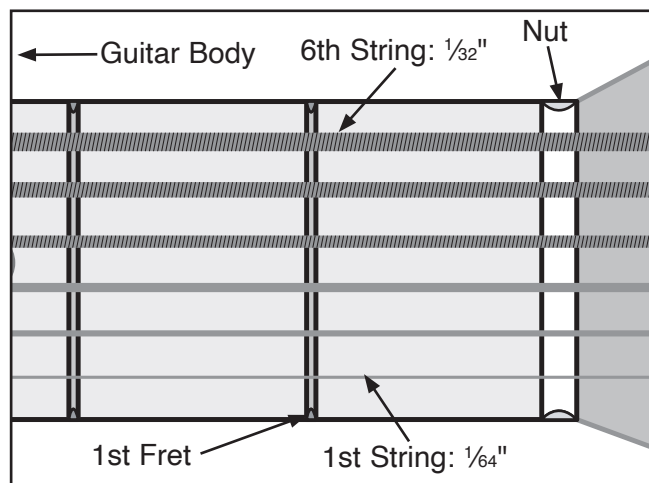

Figure 32. Correct 1st fret string heights.
1. Check string heights of 1st and 6th strings at 1st fret. Measurements should be $\frac{1}{64}$ " at 1st string and $\frac{1}{32}$ " at 6th string (see **Figure 32**).